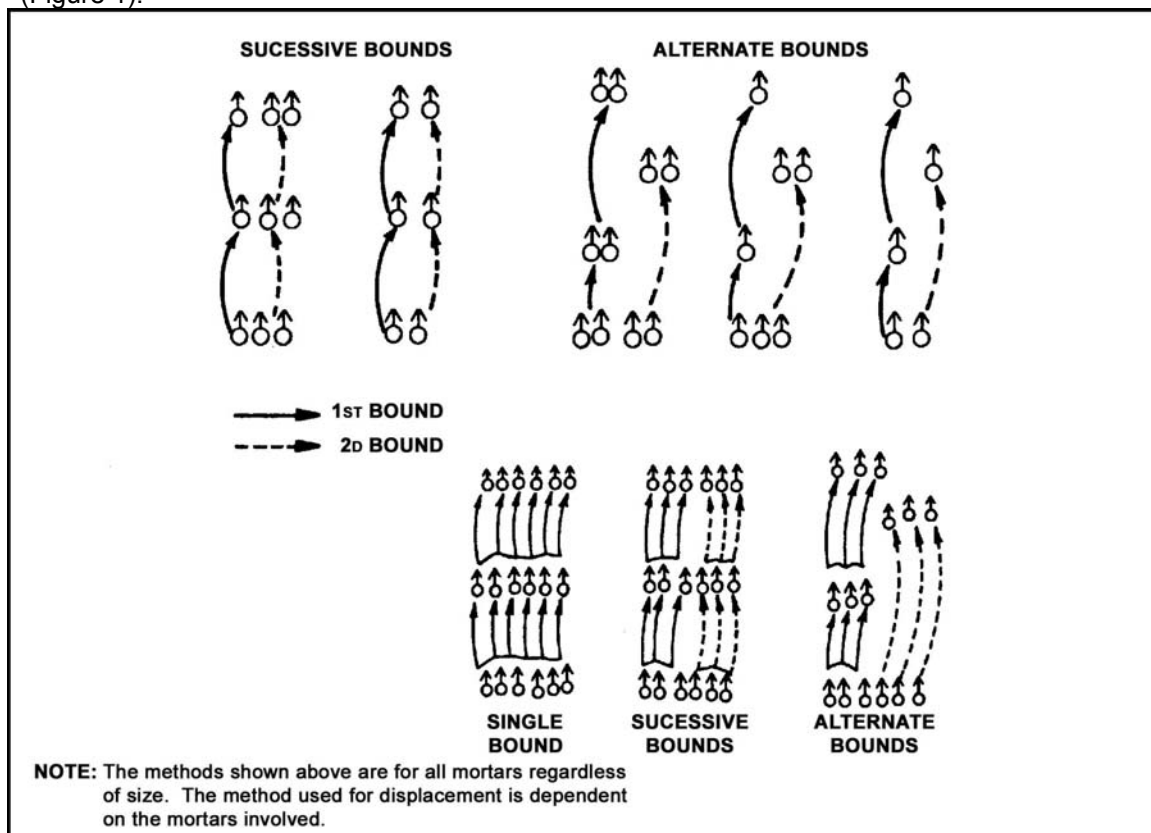

Figure 1. Displacement methods.
2. Displacement method by squad or section. This method is similar to displacement by sections, except fewer mortars are involved. Displacement is usually employed by platoons or sections with two or three mortars. In two-mortar platoons/sections, displacement means displacing one mortar while the other provides continuous support. In three mortar platoons/sections, one or two mortars remain in place while one or two displace. When the first mortar to displace is in position and ready to fire, the remaining mortar can be displaced. When possible, part of the FDC is normally sent with the displacing squad, or a squad leader with an M16 plotting board or MBC can serve as a temporary FDC. When displacing by section or squad, successive or alternate bounds are used (Figure 1).